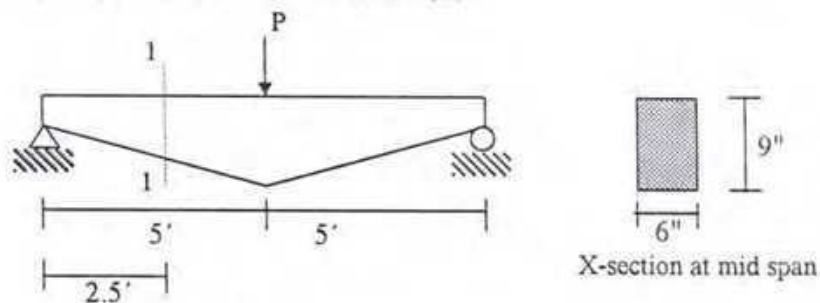

Fig. 5
Q6. A simply supported beam of 10 ft span is loaded as shown in Fig.5. The beam has a constant width of 6" throughout its length with varying depth of 9" at the center to minimum at ends. Find the minimum depth of the beam at Sec. 1-1 such that the maximum bending stress at Sec.1-1, $\sigma_{\max(1-1)}$ is equal to that at the mid span section, $\sigma_{\max(\text{midspan})}$. (10)